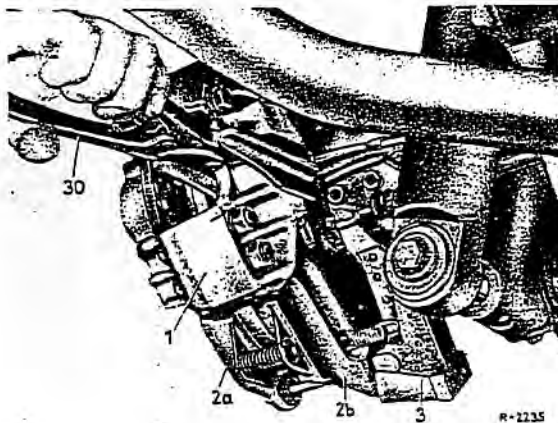

Fig. 42-10/21
- Use the piston resetting tongs (30) to push the piston back. Make sure that one friction pad always remains in the brake caliper since otherwise pushing back one piston would move the opposite piston forward (Fig. 42-10/21).